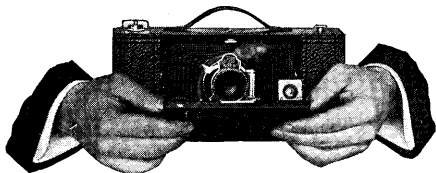

FIG. 11—Closing Front.
3. Close front by pressing down on arm locks on each side of bed as shown in Fig. 11. The bed will now close readily.